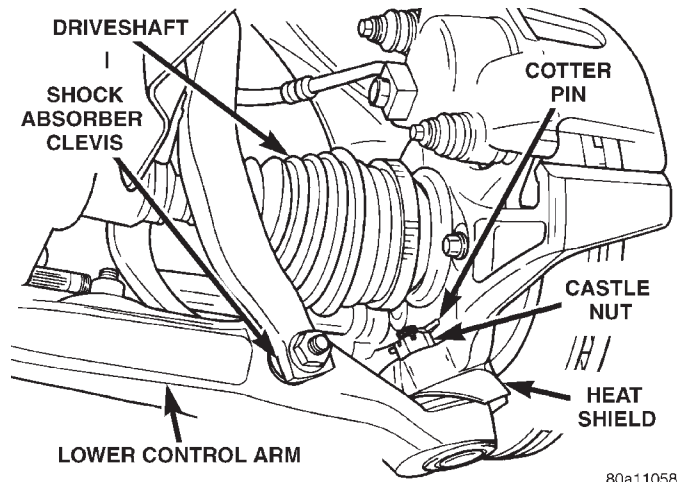
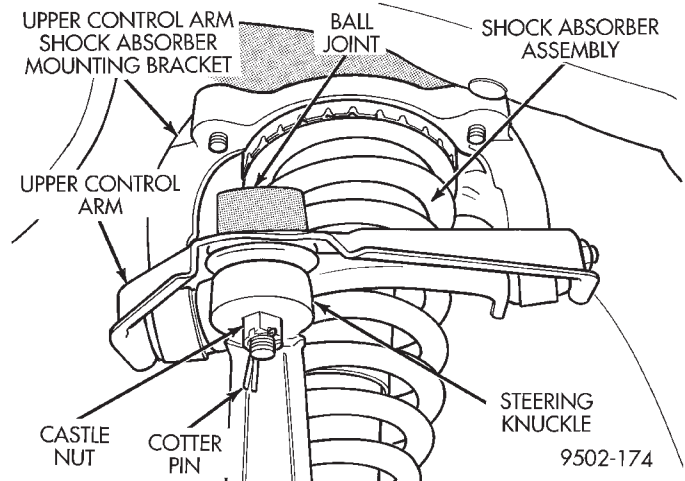

Fig. 47 Lower Ball Joint Attachment To Steering Knuckle
Fig. 50 Upper Ball Joint Attachment To Steering Knuckle
(12) Remove cotter pin and castle nut (Fig. 47) from the stud of the lower ball joint .
(16) Remove the cotter pin and nut (Fig. 50) from the upper ball joint stud to steering knuckle attachment.
(2) Install the heat shield for the lower control arm ball joint grease seal before beginning the installation of the steering knuckle on the vehicle.
(3) Slide drive shaft back into front hub/bearing assembly. Then install steering knuckle onto the ball joint stud in lower control arm.
(4) Install the steering knuckle to lower ball joint stud castle nut.
(5) Install upper ball joint in steering knuckle. Install the steering knuckle to upper ball joint nut. Tighten the upper ball joint castle nut (Fig. 50) to a torque of 54 N·m (40 ft. lbs.). Then, using a crowfoot and torque wrench, tighten the lower ball joint nut (Fig. 47) to a torque of 75 N·m (55 ft. lbs.). Install cotter pins in upper and lower ball joint studs.